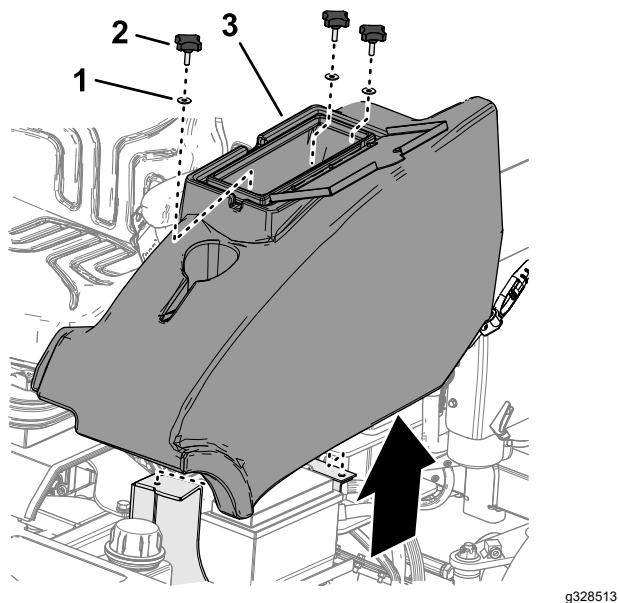

Figure 48
1. At the left side of the operator's platform, open the door of the storage compartment (Figure 48).
2. Remove the 3 knobs and 3 washers that secure the storage compartment to the machine, and remove the compartment (Figure 48).